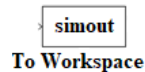

Figure 1.23 – To Workspace block icon
5.4. The To Workspace block can be found in the **Simulink/Sinks** library. To Workspace block icon is shown in Figure 1.23.